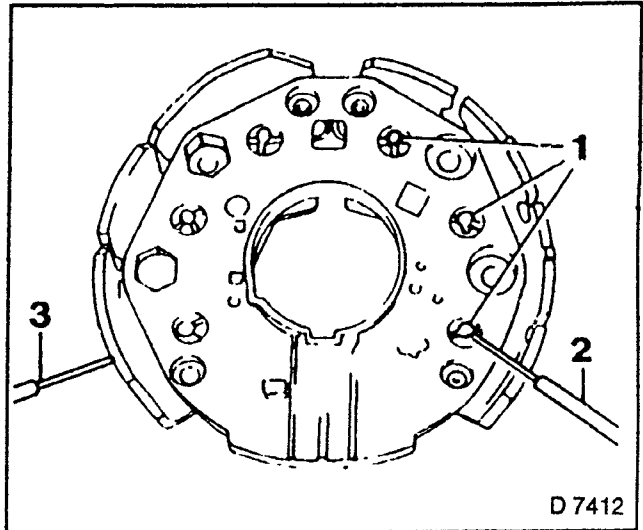

Fig. 350
1. Negative diodes (1).
2. Positive probe (2) to diode housing.
3. Negative probe (3) to diode connection.
5. Exchange probes — see Fig. 350.